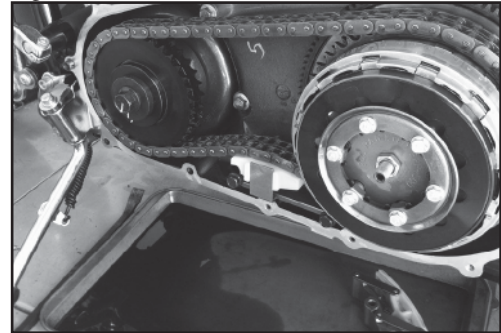

Figure 3
3. Place the smaller spring inside the larger spring and place them in the hole in the bottom the shoe. With the smooth surface facing up and the circular cutout facing forward, on the SHOE place the shoe and springs into the guideplate and slide it into place under the primary chain. (Installation note: It may be necessary to start on the clutch side of the primary case and slide the adjuster forward, or to the center, and into final location.) See Figure 3.